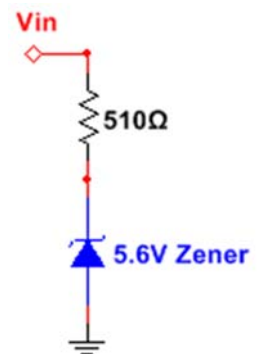

Fig. 3: Zener voltage reference
- **Task 2a:** Build the zener voltage reference (Fig. 3). Some comments: